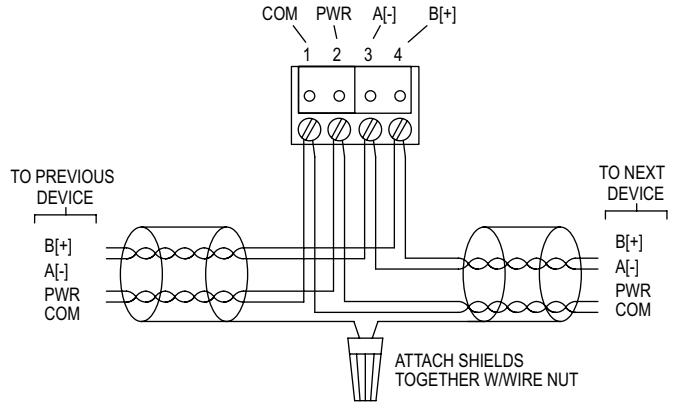
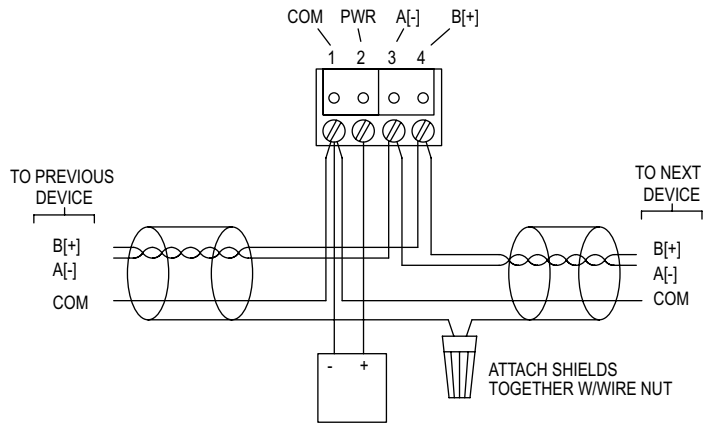

Figure 3 - Common Power Supply
Figure 4 - Local Power Supply
7. Proceed with wiring diagrams according to Figures 3 and 4.
Figure 3 shows how to connect the GSTC in a network containing a common power supply. Use a cable containing two twisted pairs. One pair is to be used for the power and common. The other pair is to be used for A[-] and B[+]. Attach the shields together with a wire nut. This configuration is not suitable for AC supplies. Use a DC supply only. Care should be taken that there are not too many devices powered from the same supply as voltage drops will occur in the wiring. If you have many devices, or have long cable runs, the local supply configuration, shown in Figure 4, may be a better choice.
Figure 4 shows how to connect the GSTC in a network containing individual local supplies. Use a cable containing a single conductor and a twisted pair. The single conductor is to be used for common, and the pair is to be used for A[-] and B[+]. Attach the shields together with a wire nut. Both AC and DC supplies are suitable for this configuration.